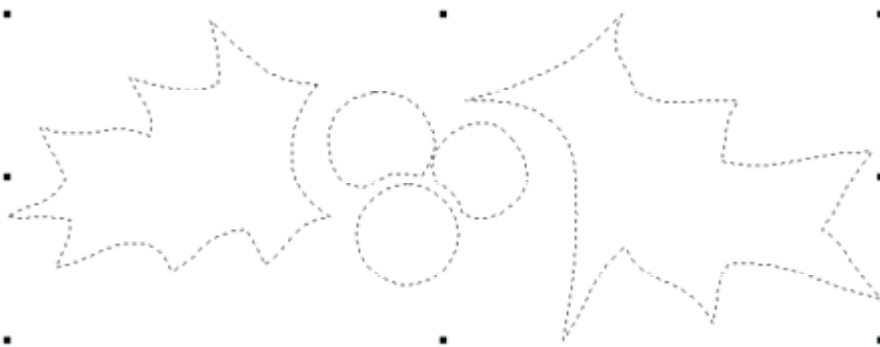

Figure 6
- 4 You can Shade different areas in the same drawing, with different Shading Parameters. Select all parts of you drawing similar to Figure 6.